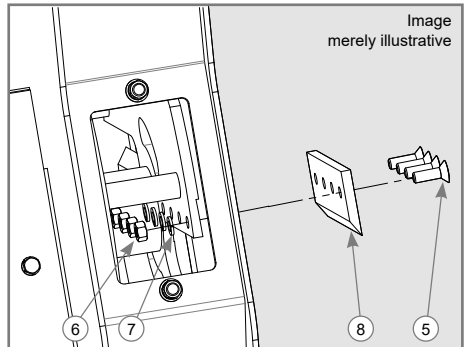

Figure 6
- ✓ With the 3/16" Allen wrench, hold the screw (5) and the 1/2" star wrench that comes with the manual, loosen the lock nuts (6), remove the lock washers (7), the screws (5), and remove the blade (8), as shown in Figure 6.